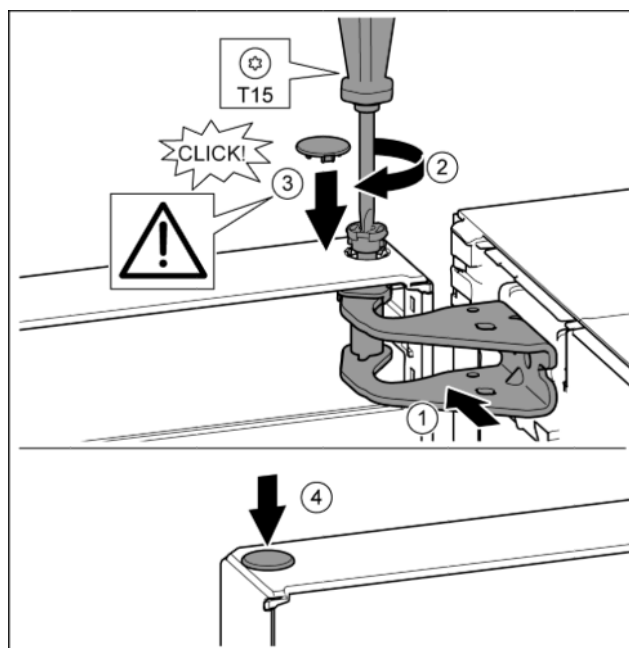

Fig. 16
- Align top of door with aperture in mounting block. Fig. 16 (1)
- Insert the bolt and tighten with a T15 screwdriver. Fig. 16 (2)
- Fit protective cover to protect the door: Insert the protective cover and check that it is attached to the door. If not, insert the bolt fully. Fig. 16 (3)
- Insert the plugs. Fig. 16 (4)